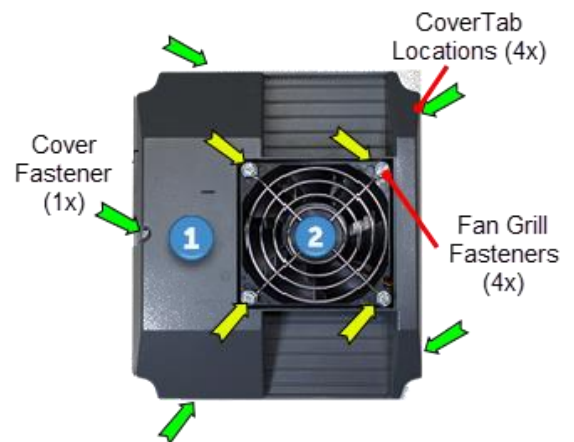

Figure 1
- 3 Remove the Motor Controller (MC), refer to service manual “Motor Controller Removal” procedure.
- 5 Use a small standard screwdriver to release the four mounting tabs and carefully lift the MC top cover **1** from the main housing (see fig. 1). Disconnect the power cable connector and remove the top cover. Retain fastener for installation.
- 6 Use a #2 screwdriver to remove the four fan fasteners and remove the fan grill **2** (see fig. 1). Retain grill and fasteners for installation.